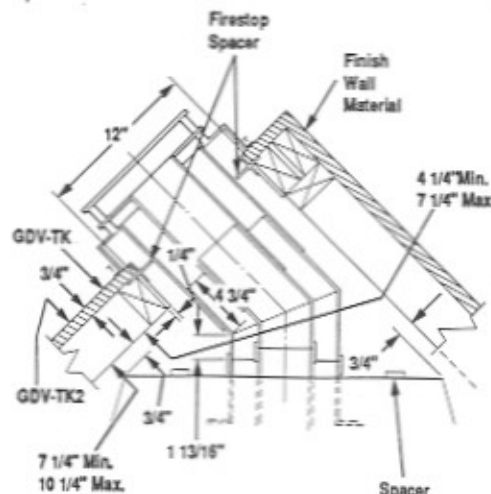

Figure 17
Step 7. Insert the vent terminal kit through firestop assembly and connect to 45° elbows in manner illustrated in Figure 17. Do not fully engage the vent terminal kit until finished exterior wall surface is applied. At that time, the vent terminal kit can be fully engaged around the 45° elbows and secured to the outside wall with 6d nails as shown in Figure 17. To seal kit to wall, silicon caulking should be applied around entire perimeter of the vent terminal kit.